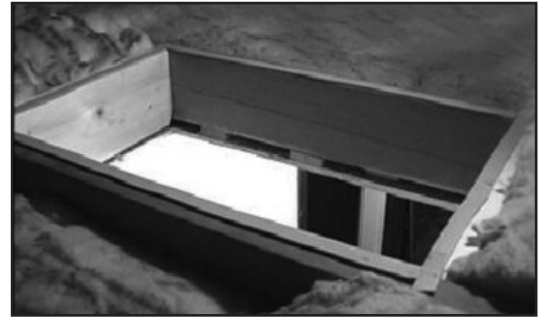

Figure 1.
1. The fan housing will fit either 16" or 24" on center framing. Cut two pieces of 2x stock (2 x 6 or 2 x 8 etc.) of the same dimension as the existing joists. Add these pieces of framing to form a box between the joists. (Figure 1).